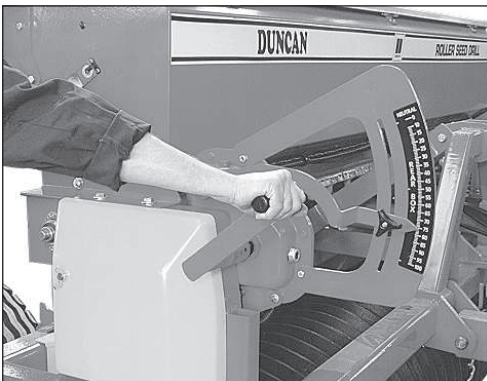

fig 13
- 7 Place the crank handle over the hexagonal drive dog on the gearbox input shaft and turn clockwise until the seed flows consistently from the seeders. To ensure complete filling of the seed unit continue turning the crank until the calibration tray is approximately half full then empty into the seedbox. The drill is now ready for calibration. Refer Fig 13.